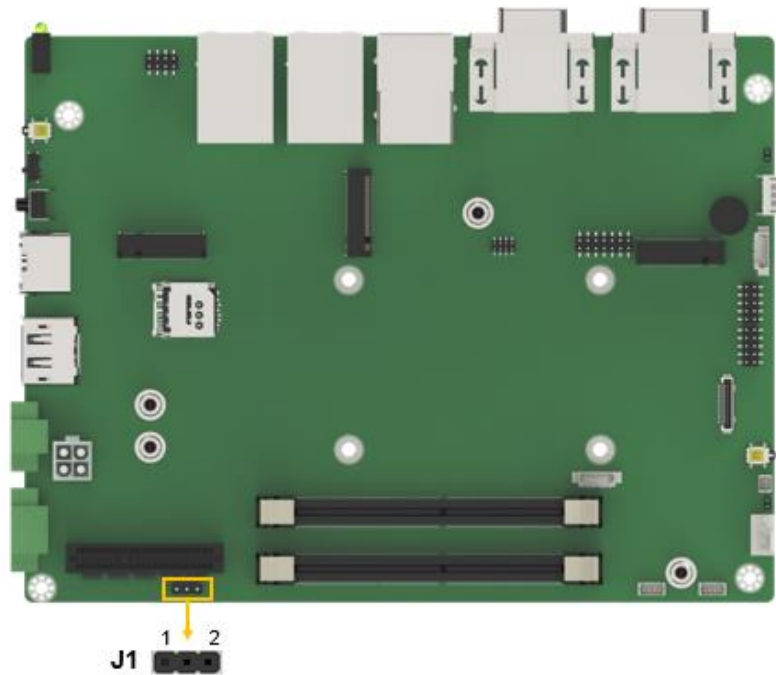

Figure 4-22: PMBUS Connector Location
- CN Location:** See **Figure 4-22**